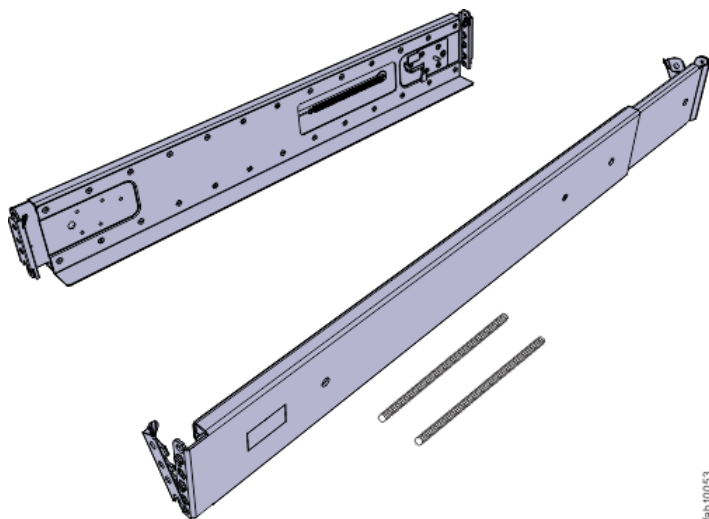

Figure 31. Expansion enclosure support rails
1. Locate the expansion enclosure rails (Figure 31 on page 71).